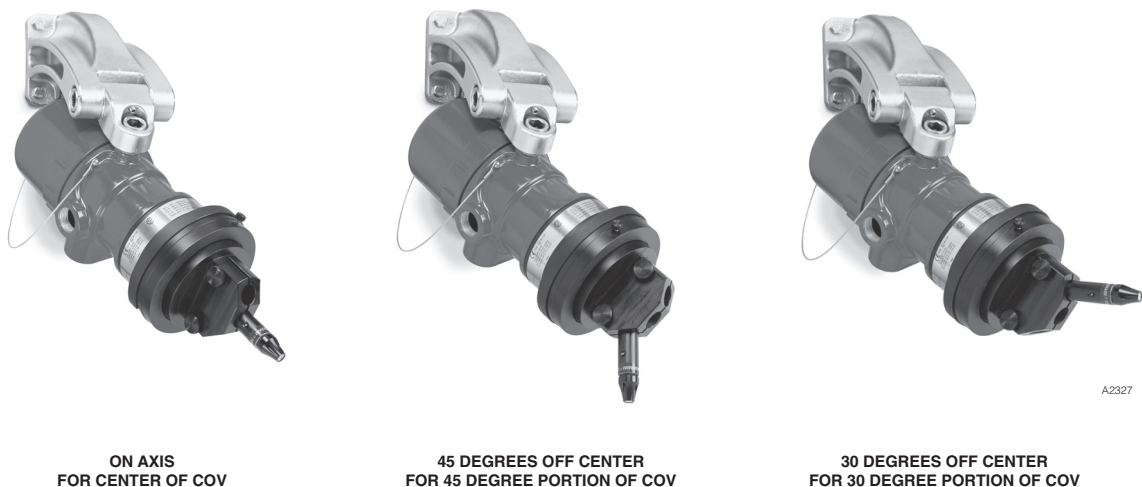

Figure 1—Laser Positions in Q1201C Laser Holder
entire area of coverage of the flame detector. Figure 1 shows the Q1201C Laser Holder with the Laser positions indicated.
1. Slide the Laser into the center mounting hole on the Q1201C. Refer to Figure 1.
1. To test the 30 degree portion of the detector's cone of vision, slide the Laser into the 30 degree hole. To test the 45 degree portion of the detector's cone of vision, slide the Laser into the 45 degree hole. Tighten the appropriate thumb screw to hold the Laser securely in place. Refer to Figure 1.